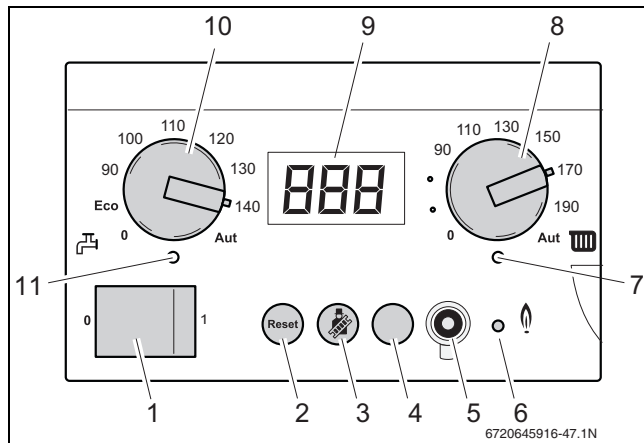

Fig. 70 BC10 basic controller
- ▶ Press and hold the  button (→ fig. 70, [3]) (approx. 2 seconds), until the dot in the right-hand bottom corner of the display (→ fig. 70, [9]) appears (→ table 12, page 31).
- ▶ After the “LED Burner operation” (→ fig. 70, [6]) has lit wait for 1 minute until the boiler is burning at full load.
- ▶ Press the “Chimney sweep”  button (→ fig. 70, [3]) to clear the reading (→ table 12, page 31).
- ▶ Switch OFF the heating system by pressing the main switch of the BC10 basic controller (→ fig. 70, [1]).
- ▶ Remove the flue gas analyzer and fit the cover back onto the flue gas measuring point (→ fig. 70, [1]).
- ▶ Switch ON the heating system by pressing the main switch of the BC10 basic controller (→ fig. 70, [1]).
- ▶ Switch OFF the appliance by pressing the main switch of the BC10 basic controller (→ fig. 70, [1]).
- ▶ Switch ON the appliance by pressing the main switch of the BC10 basic controller (→ fig. 70, [1]).
- ▶ After the LED Burner “operation” (→ fig. 70, [6]) has lit wait for 1 minute until the boiler is burning at part load.
- ▶ Press and hold the “Chimney sweep” button (→ fig. 70, [3]) (approx. 2 seconds), until the dot in the right-hand bottom corner of the display (→ fig. 70, [9]) appears (→ table 12, page 31).